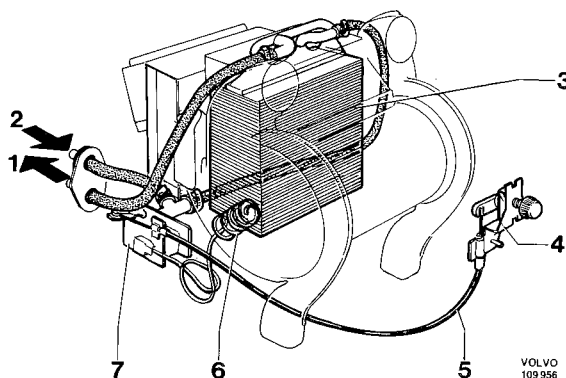

Fig. 8-44. Heating system
The heater system in the combined unit consists of a cell assembly and a heater control valve. The cell assembly (3, Fig. 8-44) is located in the central unit, while the heater control valve (7) is placed underneath.